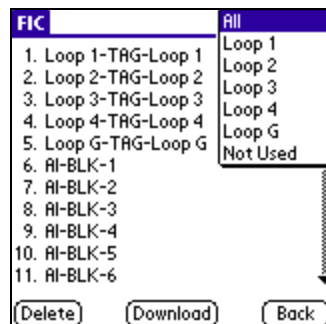

Figure 7
4. Select this name (FIC) from the list. You will now be in the main programming screen (Figure 7).